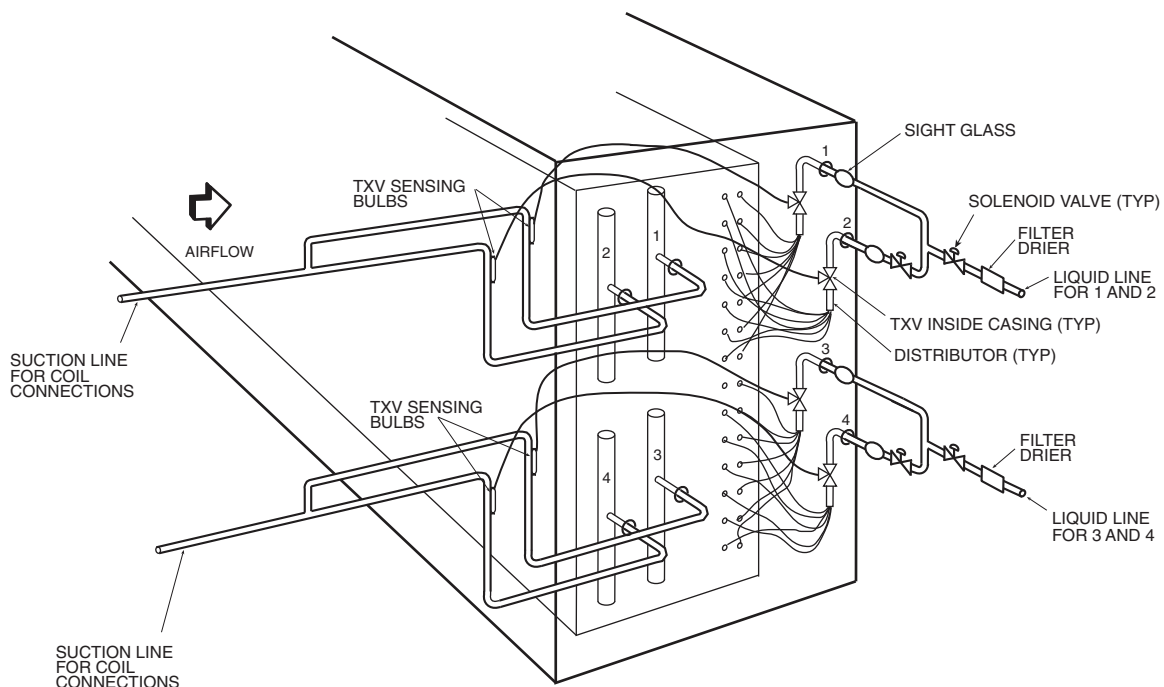

Fig. 110 — Face-Split Coil Manifolding (Typical)
Refer to Fig. 110 and externally manifold as follows:
Refer to Fig. 110 for coils with less than 34 tubes in face. Externally manifold as follows:
1. Coils with less than 34 tubes: Connect the 4 expansion valves to the 4 distributors on each coil and connect the 4 suction lines to the 15-diameter-long risers as outlined in previous piping instructions. Refer to Fig. 110.